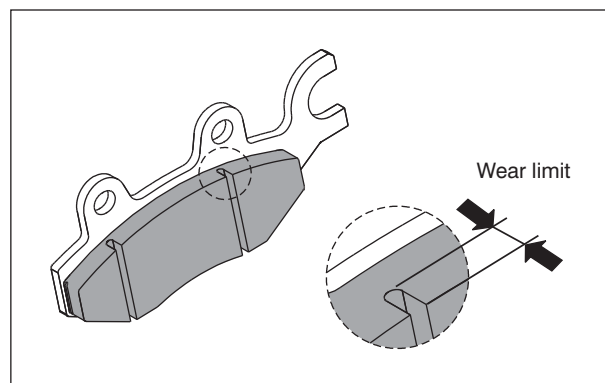

Fig. 2.114
- Observe the wear limit line marked on the pad and check wear condition of brake pads. (Fig. 2.114)